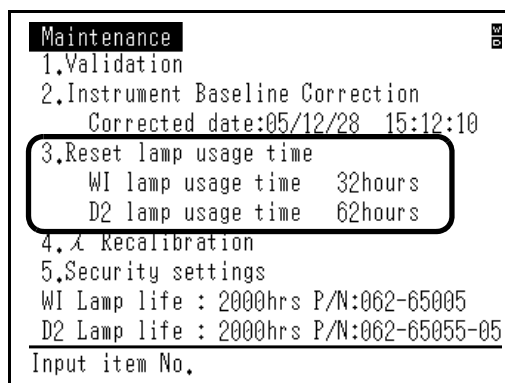

Fig. 3.2
- 2 The Maintenance screen (Fig. 3.2) appears and the accumulated usage time of the light source lamps are displayed.